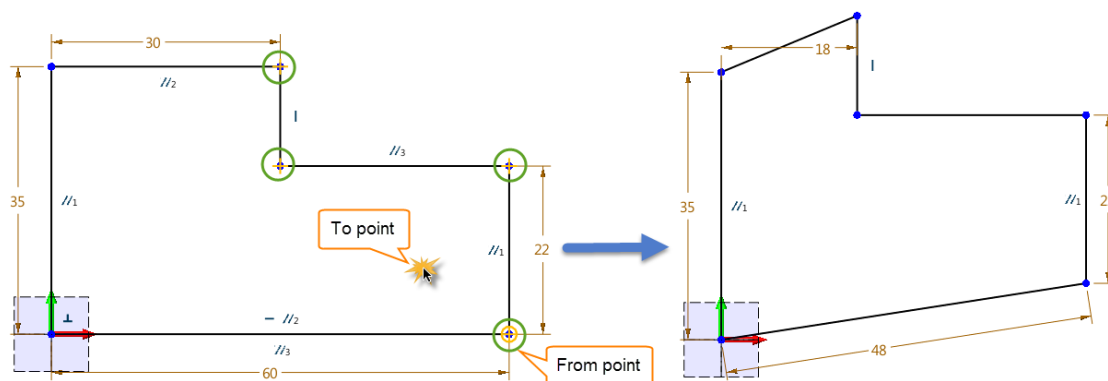

Figure 100 Stretch the Points
STEP 01 Select the necessary points within a rectangular. As Figure 100 shows, the selected points will be marked in green circles.